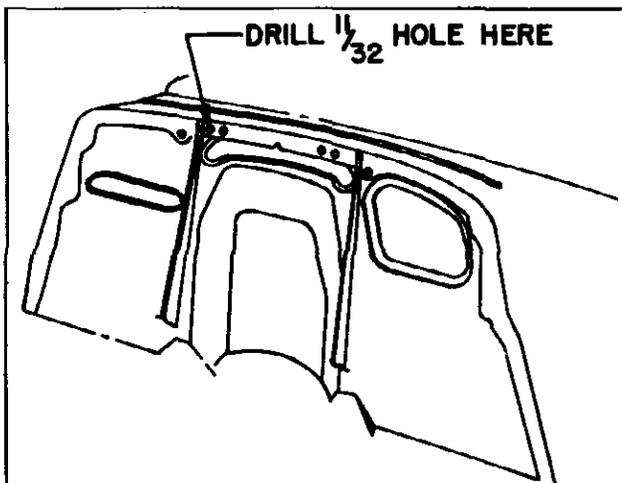

Figure 14
- Drill  $11/32$  inch hole on right hand side of dash and pierce dash mat for radio mounting bracket. (See Figure 14.)